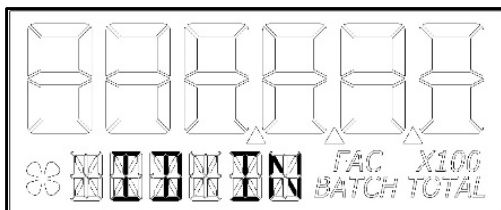

Figure 27-1
This menu is to allow the user to enter a pipe inner diameter (ID) which will allow the display to calculate and display the fluid velocity thru the meter. The pipe dimension unit can be selected as either inches (IN) or millimetres (mm) as preferred by user (see Figure 27-1).